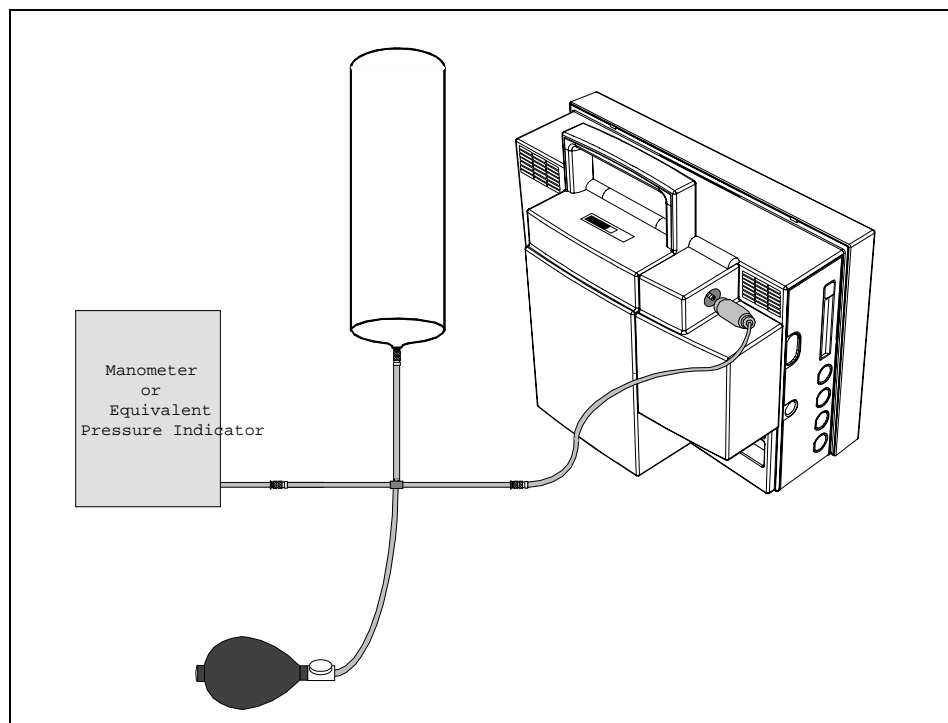

Fig. 4-1 NBP Calibration Test Setup
- 4.10.1 Test Setup      1) Set up the monitor and NBP Calibration Assembly (Art. No. 28 77 855 EE54U), as illustrated in Fig. 4-1.